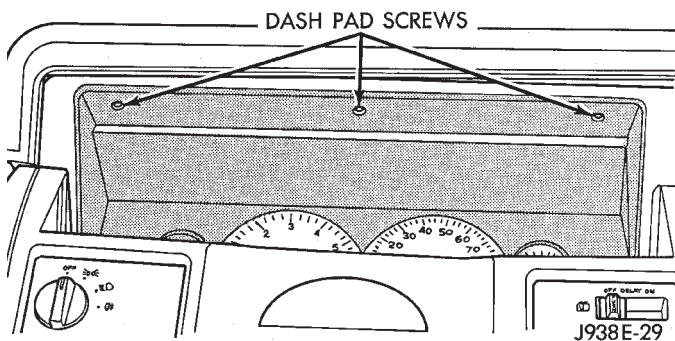

Fig. 7 Remove Screws Holding Dash Pad
(9) Remove 3 screws above Instrument Panel cluster holding dash pad (Fig. 7).